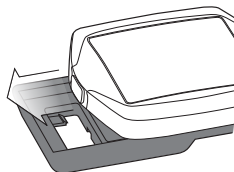

Figure 9. Slide computer into computer base.
- ✦ Slide the computer into the computer base (Figure 9) being careful not to press any buttons.